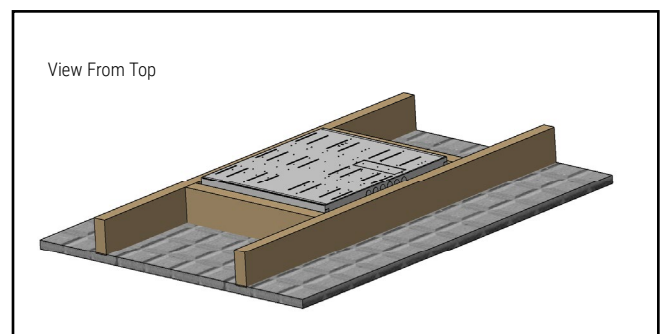

Figure 9
4. Finished DFVR assembly (Figure 9)